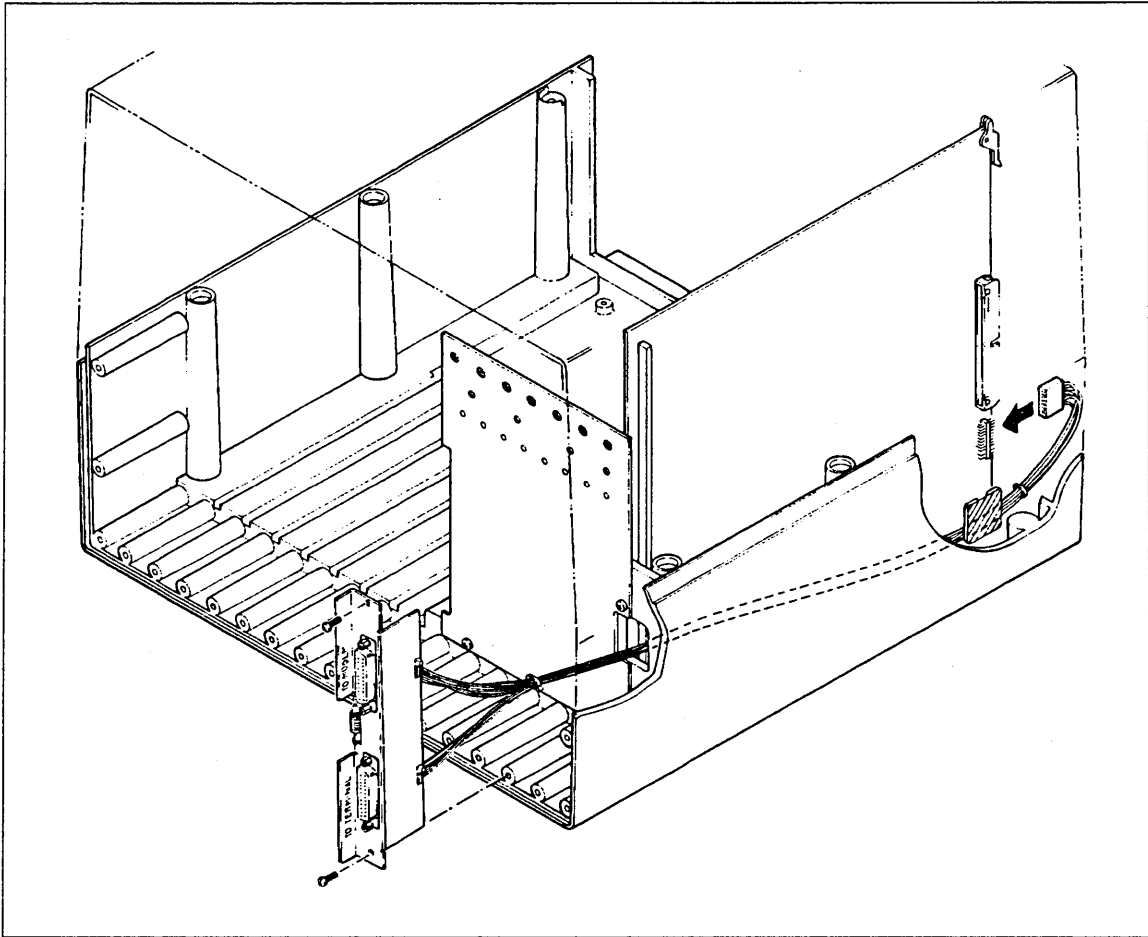

Figure 1-11. MCO Installation
3. Refer to figure 1-11. Route the cable from the back of the cabinet through the rectangular opening in the backpanel exposed by removing the double-width plate.